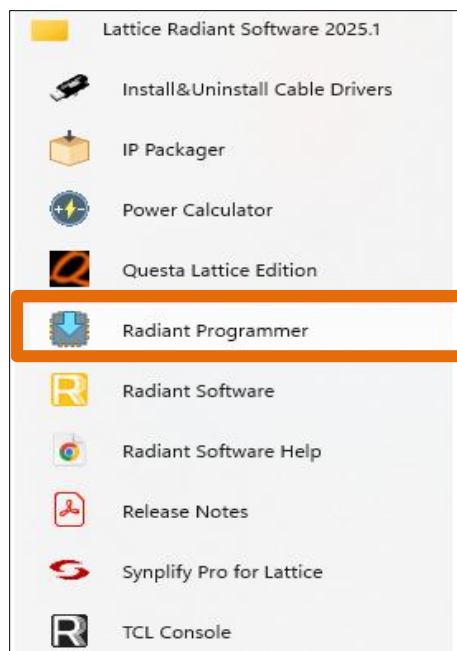

Figure 7.54. Launch Radiant Programmer from Windows Start
1. Launch the Lattice Radiant Programmer tool from Lattice Radiant as shown in Figure 7.54.